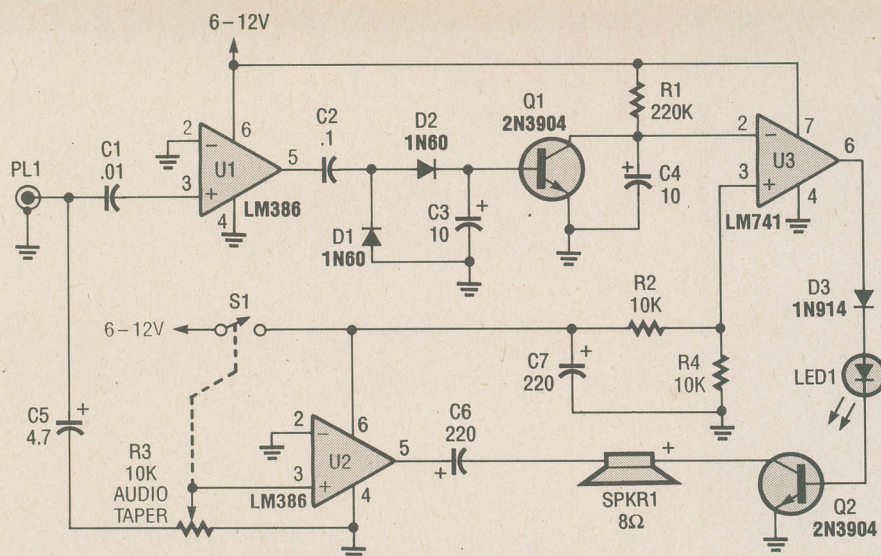

Fig. 1. The Scanner Companion consists of two LM386 low-power audio amplifiers, an LM741 op-amp, a couple of transistors, and a few additional components.
**How It Works.** A schematic diagram of the Scanner Companion—which consists of two LM386 low-power audio amplifiers, an LM741 op-amp, a couple of transistors, and a few additional components—is shown in Fig. 1.